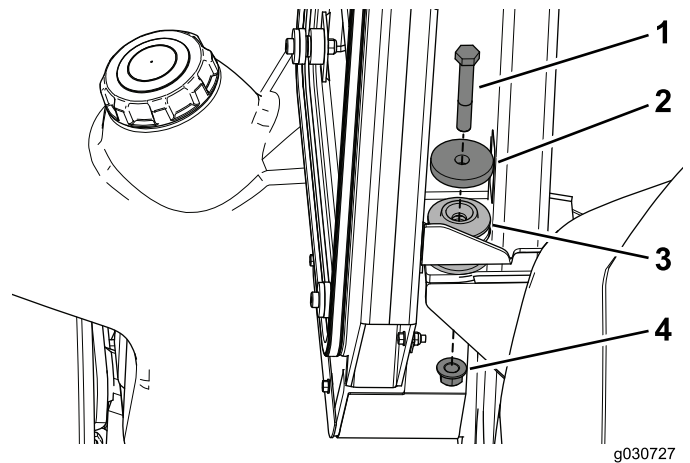

Figure 24
3. Use a bolt (1/2 x 3-1/4 inch), a washer (2-1/4 inches) diameter, and locknut to secure the cab to the rear mounts on the machine (Figure 24).